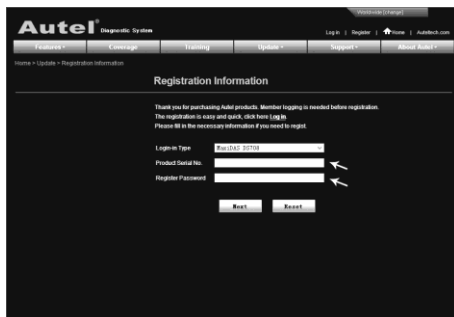

Figure 6.2
4. Put in the Product Serial No. and Register Password, and click on **Next**. (Figure 6.2)